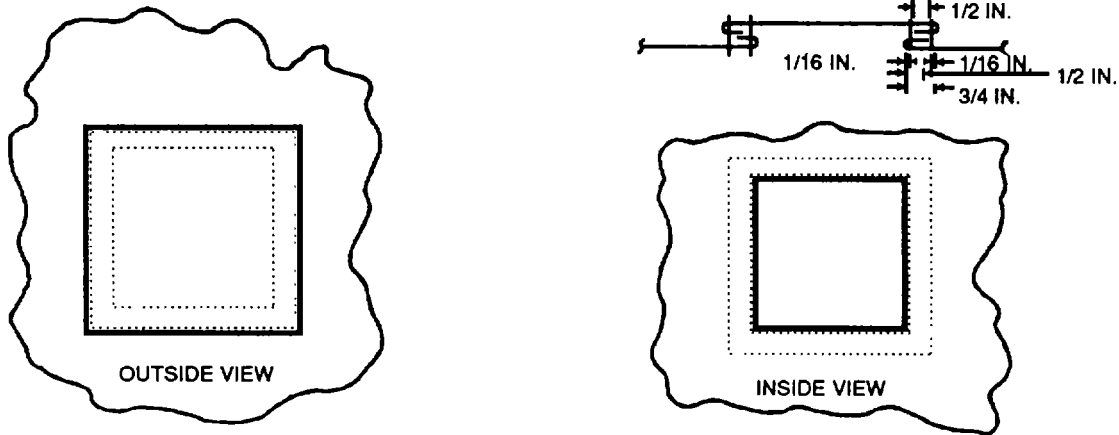

Figure 2-2. General Patching Details.
- (1) Place the repairable item on a repair table, smooth the fabric around the damaged area, and secure the item to the table with pushpins. Do not pin the damaged area.
- (2) Mark a square or rectangle around the area to be patched and ensure that one side of the marked square or rectangle is parallel to the warp or filling of the fabric.
- (3) Cut the damaged area fabric along the lines made in (2) above. Further cut the fabric diagonally at each corner to allow a 1/2 inch foldback in the raw edges.
- (4) Make a 1/2 inch foldback on each raw edge, pin, and baste to complete the prepared hold.
- (5) Mark and cut a patch 2-1/2 inches wider and longer than the inside measurements of the prepared hold. Ensure that one side of the patch material is marked and cut along the warp or filling of the fabric.
- (6) Center the cut patch material on the prepared hole and ensure the warp or filling of the patch material matches the warp or filling of the fabric being patched. Pin the patch material in position.
- (7) Make a 1/2 inch fold under each edge of the patch material and baste the patch material to the prepared area.
- (8) Remove the pushpins securing the repairable item to the repair table and secure the patch by stitching, using the applicable details in Figure 2-2. Make the first row of stitching completely around the patch. Turn the item over and make a second row of stitching around the prepared hole.